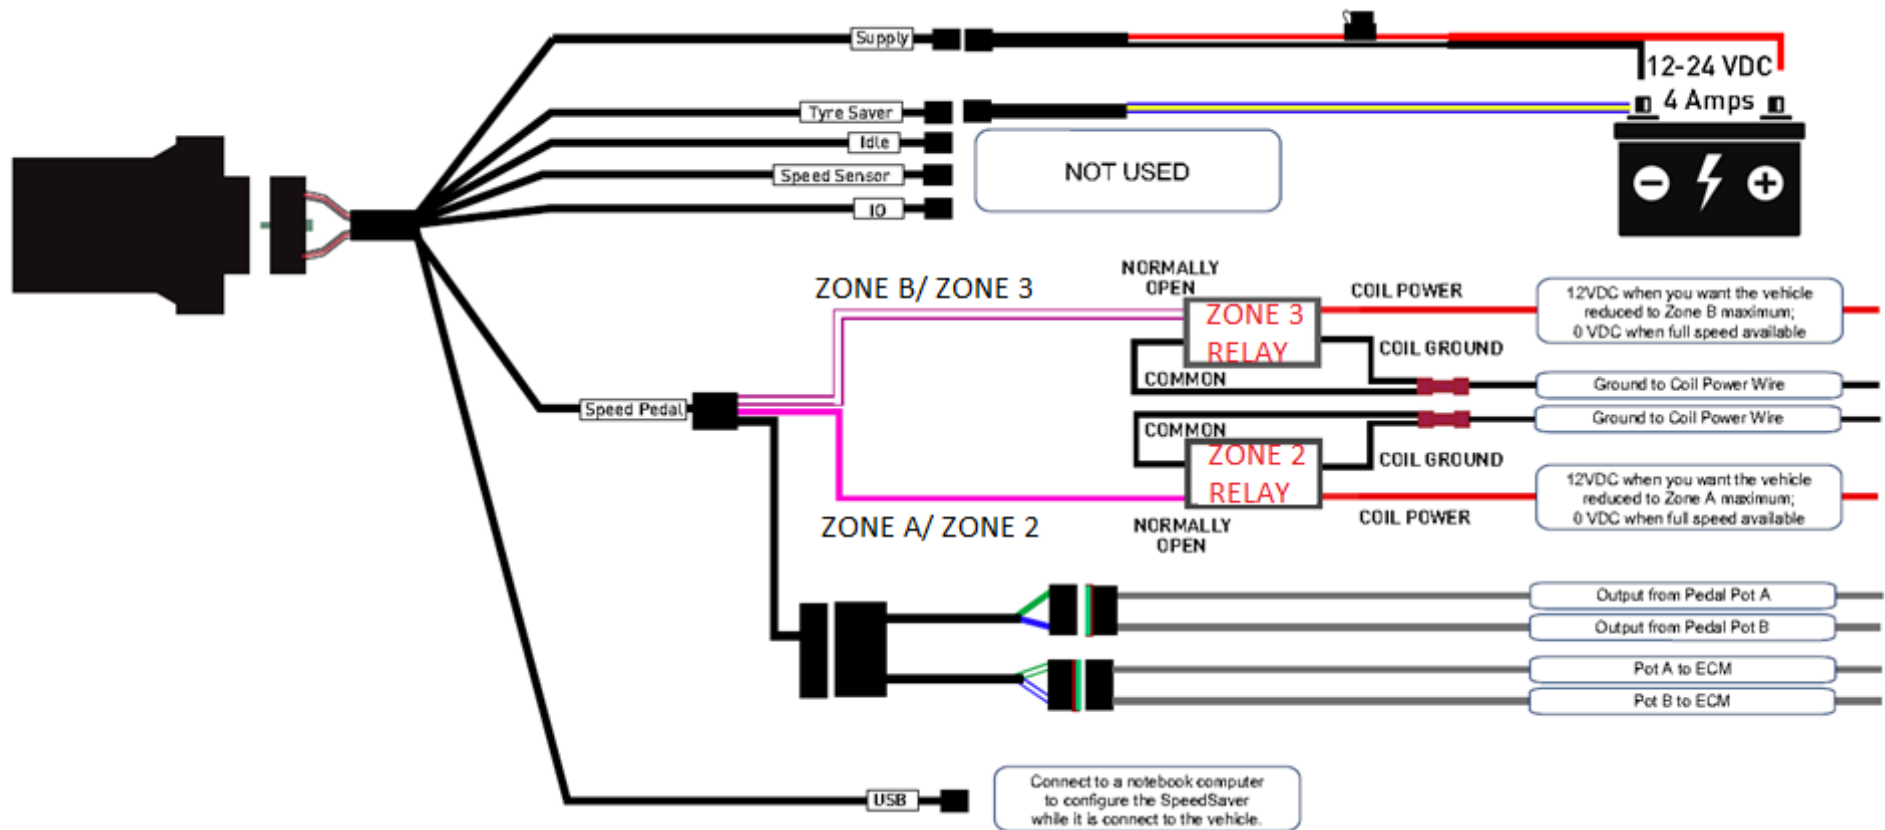

Figure 2: Speed Manager Generic, Forklift Gateway (VAC4) or Forklift Gateway Trigger Wiring Diagram
- Speed Manager trigger inputs are ground switched, which requires a Normally Open (NO) relay to provide a ground connection when external input(s) are triggered.
- **Figure 2.**